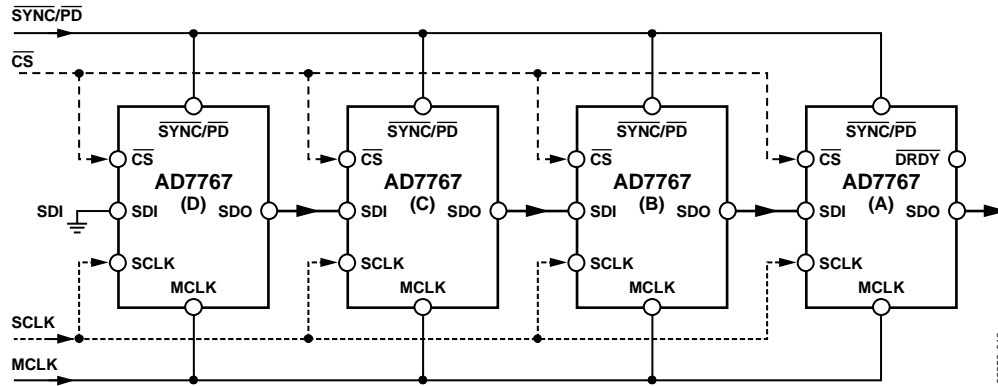
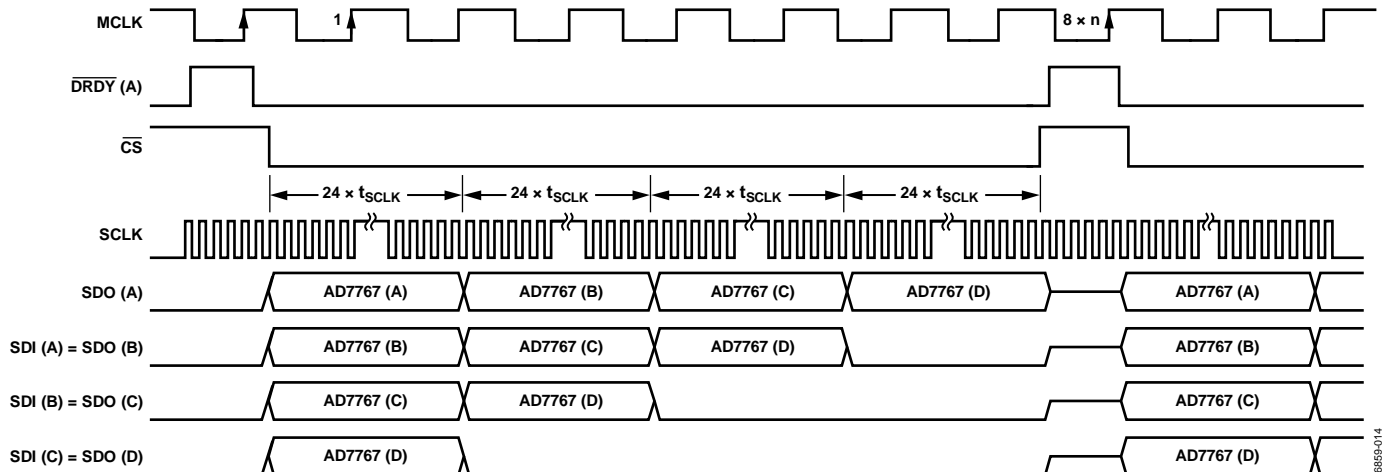
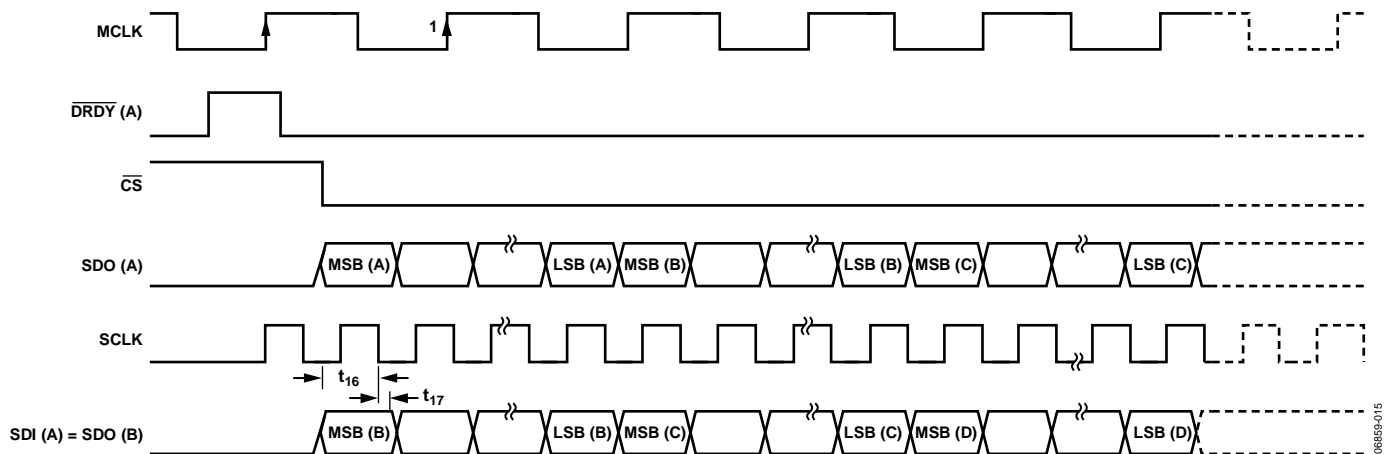

Figure 36. Daisy-Chain Configuration with Four AD7767 Devices
Figure 37. Daisy-Chain Timing Diagram ($n = 1$ for AD7767, $n = 2$ for AD7767-1, $n = 4$ for AD7767-2) When Driving the AD7767
Figure 38. Daisy-Chain SDI Setup and Hold Timing
The block diagram in Figure 36 shows how devices must be connected to achieve daisy-chain functionality. The scheme shown operates by passing the output data of the SDO pin of an AD7767 device to the SDI input of the next AD7767 device in the chain. The data then continues through the chain until it is clocked onto the SDO pin of the first device in the chain.
An example of a daisy chain of four AD7767 devices is shown in Figure 36 and Figure 37. In the case illustrated in Figure 36, the output of the AD7767 labeled A is the output of the full daisy chain. The last device in the chain (the AD7767 labeled D) has its serial data input (SDI) pin connected to ground. All the devices in the chain must use common MCLK, SCLK, $\overline{\text{CS}}$, and $\overline{\text{SYNC/PD}}$ signals.
After applying a $\overline{\text{SYNC/PD}}$ pulse to all the devices, there is a delay (as listed in Table 7) before valid conversion data appears at the output of the chain of devices. As shown in Figure 37, the first conversion result is output from the AD7767 device labeled A. This 24-bit conversion result is followed by the conversion results from the devices labeled B, C, and D, respectively, with all conversion results output in an MSB-first sequence. The stream of conversion results is clocked through each device in the chain and is eventually clocked onto the SDO pin of the AD7767 device labeled A. The conversion results of all the devices in the chain must be clocked onto the SDO pin of the final device in the chain while its $\overline{\text{DRDY}}$ signal is active low.
This is illustrated in the examples shown (Figure 37 and Figure 38), where the conversion results from the devices labeled A, B, C, and D are clocked onto SDO (A) during the time between the falling edge of $\overline{\text{DRDY}}$ (A) and the rising edge of $\overline{\text{DRDY}}$ (A).
As shown in Figure 37, the number of SCLK falling edges that occur during the period when $\overline{\text{DRDY}}$ (A) is active low must match the number of devices in the chain multiplied by 24 (the number of bits that must be clocked through onto SDO (A) for each device).